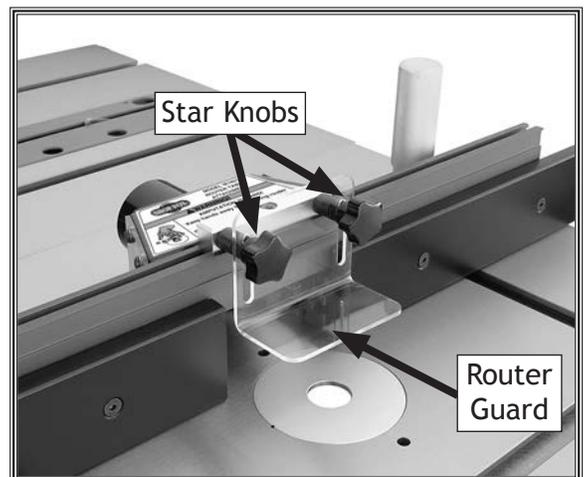

Figure 16. Router guard installed.
13. Attach the plastic router guard to the guard bracket with the (2) star knob bolts, as shown in **Figure 16**.